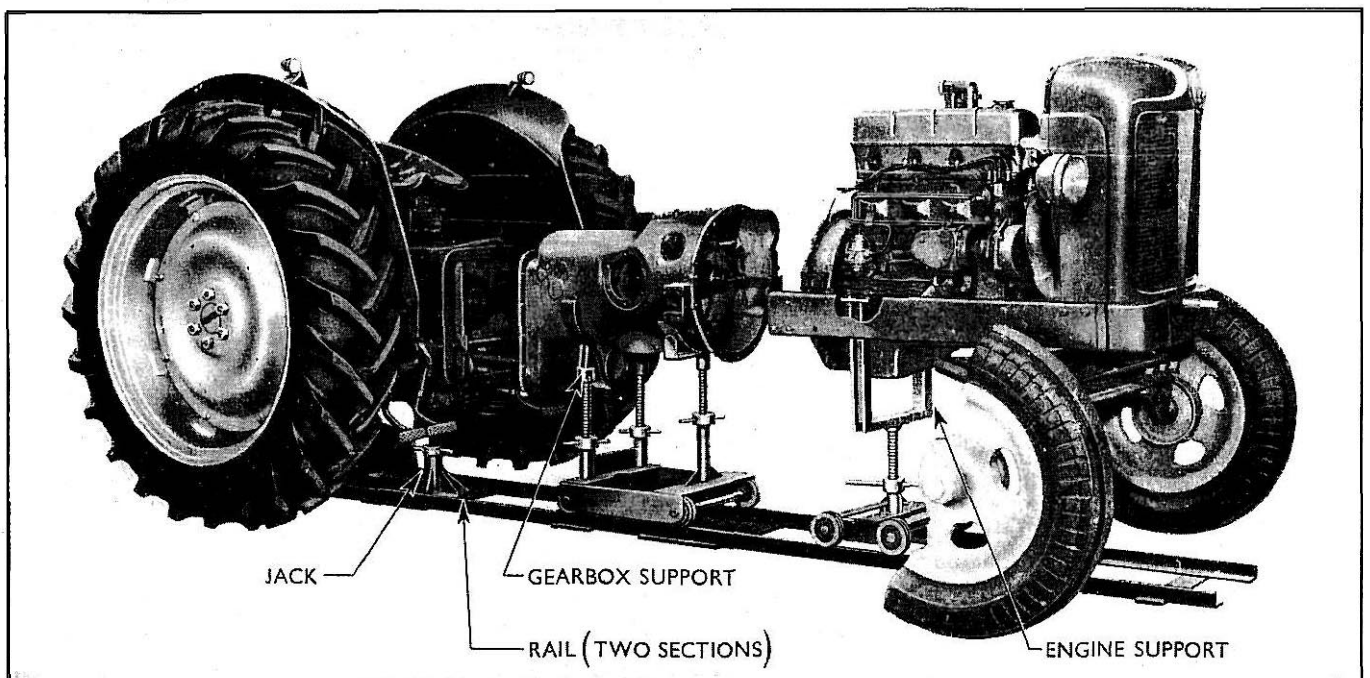

Fig. 145
- 18 Support the engine and transmission, using the tractor dismantling stand (tool No. Tr/NMD 27). Place the two rail sections under the tractor and position the engine and gearbox supports. (See Fig. 145.)
To carry out repairs to the rear axle it is only necessary to separate the rear transmission from the engine and gearbox assembly. To support the tractor during this operation use the tractor dismantling stand (tool No. Tr/NMD 27), (Fig. 145.)